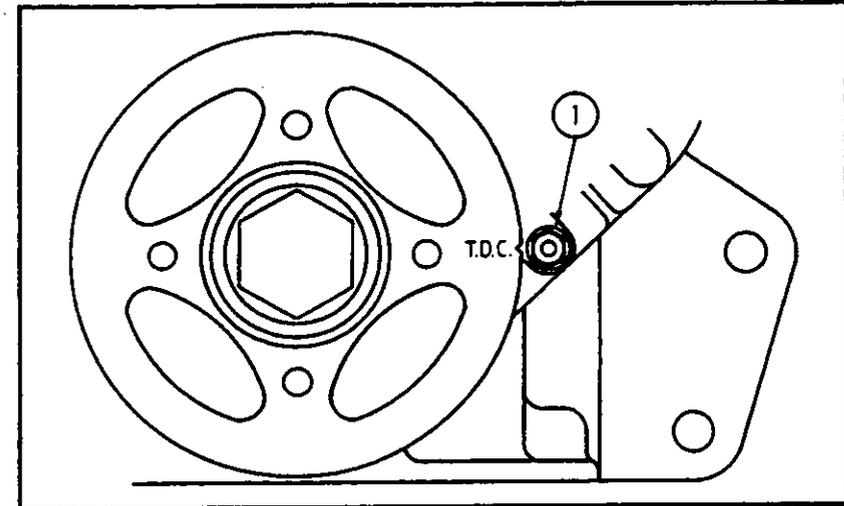

Fig. 16 Crankshaft pulley TDC mark
- 1 Set number 1 piston to 3° BTDC on its firing stroke for gasolene engines or 24° for natural gas engines. Where the crankshaft pulley has only one timing mark and pointer (1, fig. 16) to show TDC check with the workshop manual or your local Perkins distributor for timing details.
- 4 While the engine runs, direct the timing light onto the crankshaft pulley and timing pointer (see fig. 16).